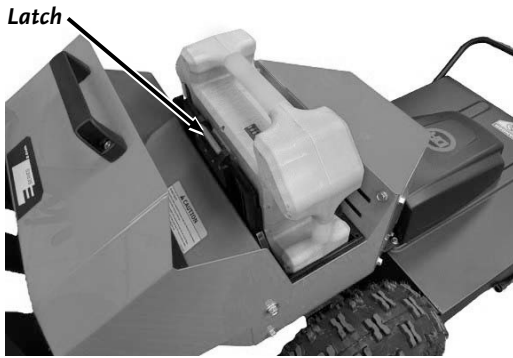

Figure 40
3. Align the connector on the Battery with the connector in the Receiver and lower the Battery Pack into the Receiver. Ensure the Battery is pushed in completely so the Latch locks it in place (**Figure 40**).
2. Grasp the top battery pack handle and with the opposite hand push the red receiver latch toward the battery handle (**Figure 40**).